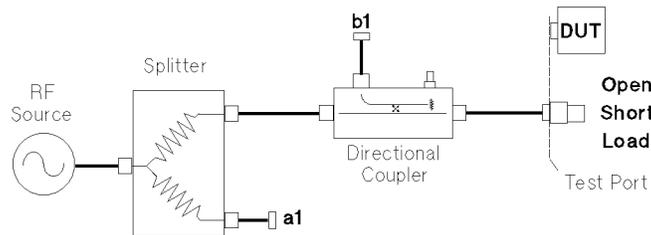

Figure 5-8. Calibration Setup for 1 Port Cal
This calibration error model provides the best accuracy for measurement of a 1-port device, providing full vector error correction for directivity, source match, and reflection signal path frequency response. The procedure uses three standards, usually a shielded open circuit, a short circuit, and a load. Refer to Figure 5-8.
4. At the test port (see Figure 5-8), connect a shielded open circuit and torque it properly.